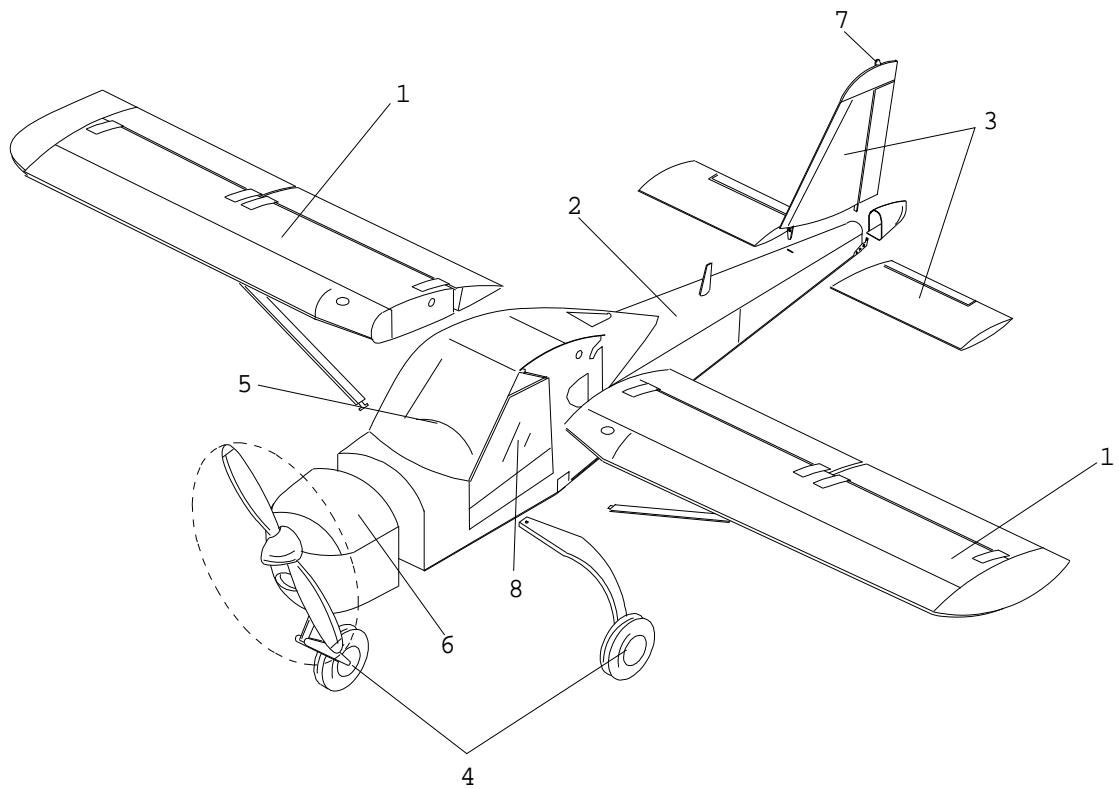

Fig. 1 EXPLODED VIEW
1) *Refer to figure 1 on page VII and determine in which section the part falls.*